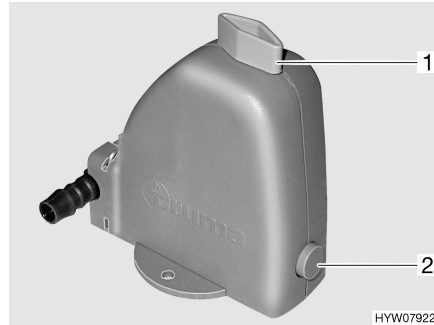

Fig. 68 Safety/drainage valve
- Close the safety/drainage valve (Fig. 68). Turn the knob (Fig. 68,1) perpendicular to the safety/drainage valve and push the push button (Fig. 68,2) in. If the temperature is below 6 °C, the safety/drainage valve cannot be closed.